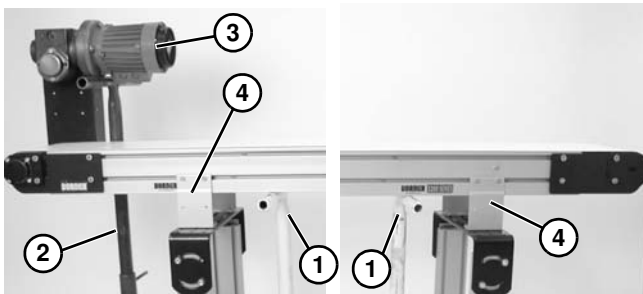

Figure 56
1. Place temporary support stands (**Figure 56, item 1**) at both ends of the conveyor. Place an additional support stand (**Figure 56, item 2**) under the drive motor (**Figure 56, item 3**), if equipped. See WARNING.
2. Remove mounting brackets (**Figure 56, item 4**) from one side of conveyor. (Reverse steps 2 & 3 of "Mounting Brackets" section on page 21).